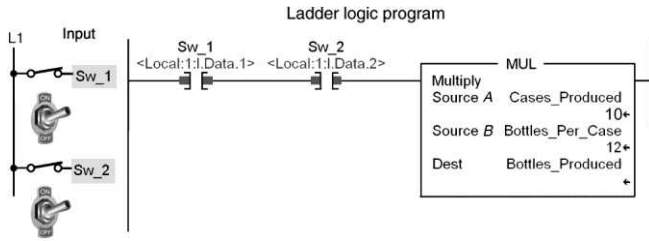

Figure 15-43 MUL instruction rung for question 4.
4. For the MUL instruction rung shown in Figure 15-43, the number of bottles produced would be 4. _____